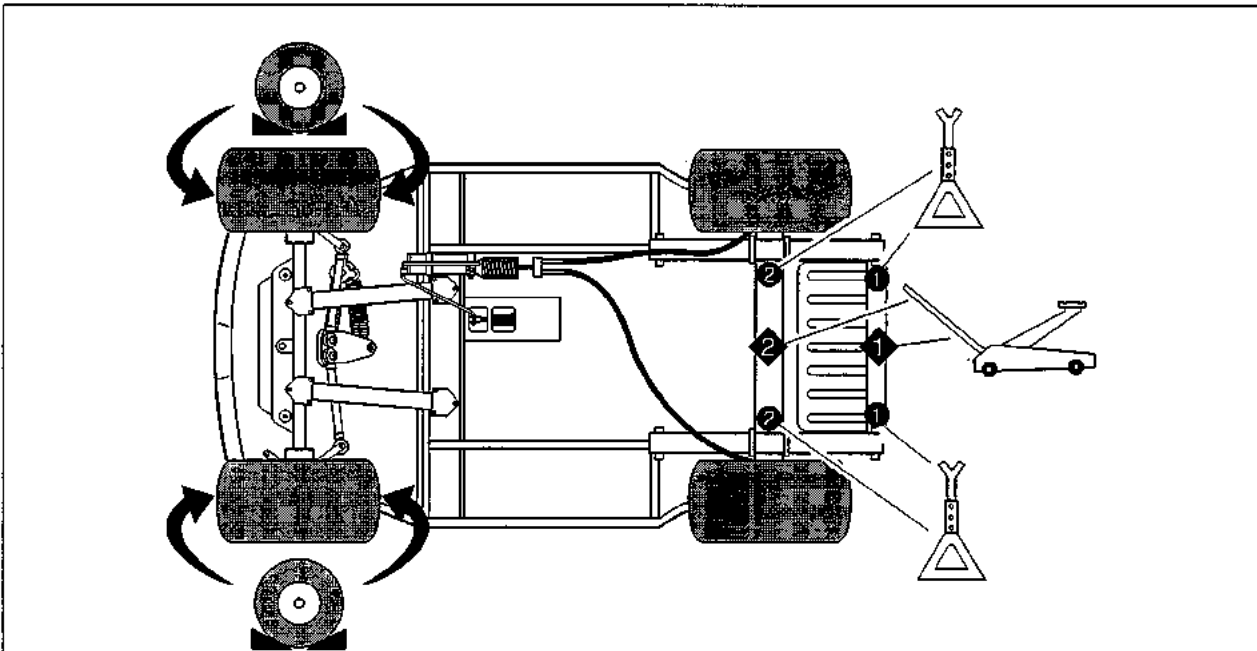

Fig. 1
- Place chocks in front and behind each front wheel. Center the jack under the rear bumper. (See Fig. 1)
- Raise the vehicle and place a safety stand under the outer ends of the rear bumper. (See Fig. 1)
5. Place the jack near the center section of the rear axle and raise just enough to place a second set of safety stands at each end of the axle tubes as close to the wheel as possible. (See Fig. 1)